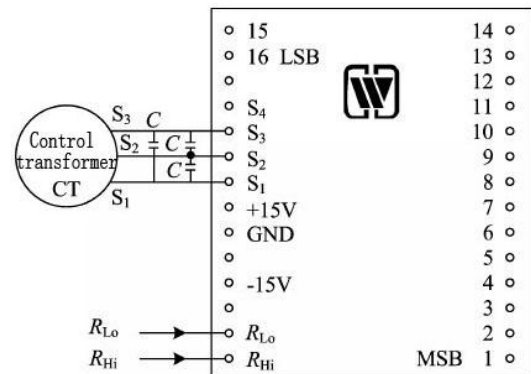

Fig. 6 Connection diagram for typical application
9. Connection diagram for typical application (Fig. 6)